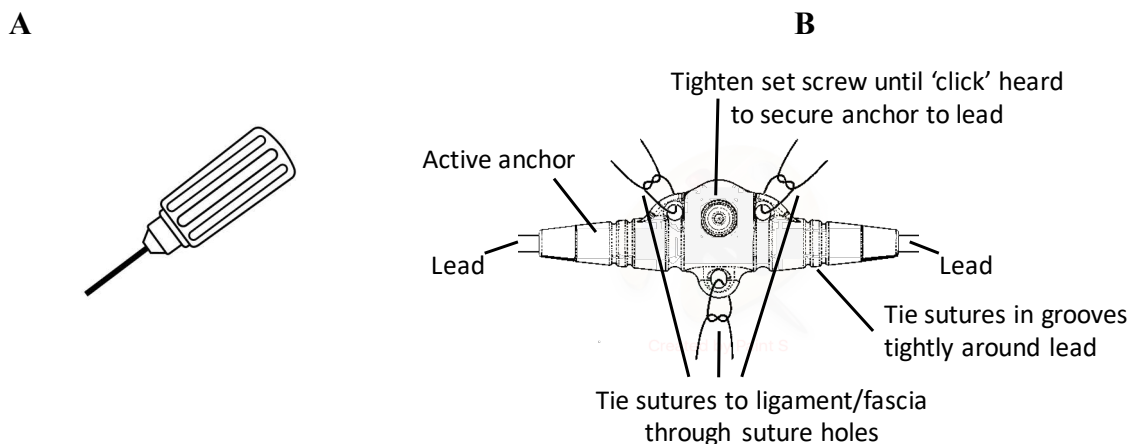

Figure 5.6: A) Torque wrench. B) Active anchor with screw secured against lead.
3. If needed, tie 1, 2, or 3 sutures in the grooves around the circumference of the anchor to secure the anchor to the lead (refer to Figure 5.6).